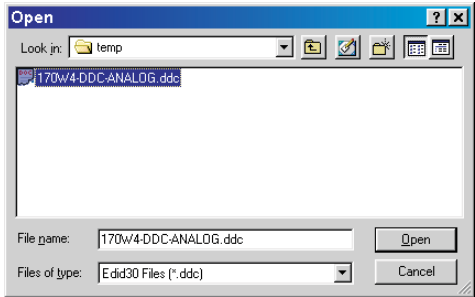

Fig. 31
2. Select the file you want to open as shown in Fig. 31.